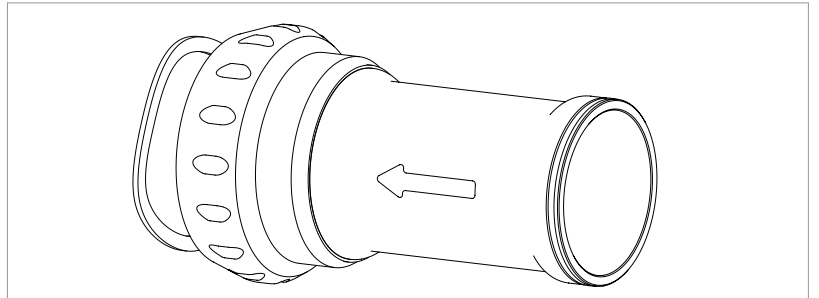

Fig.1
• Before fitting the cups in the bottom bracket, engage the hose, following the direction of the arrow, in one of the two cups (Fig. 1).